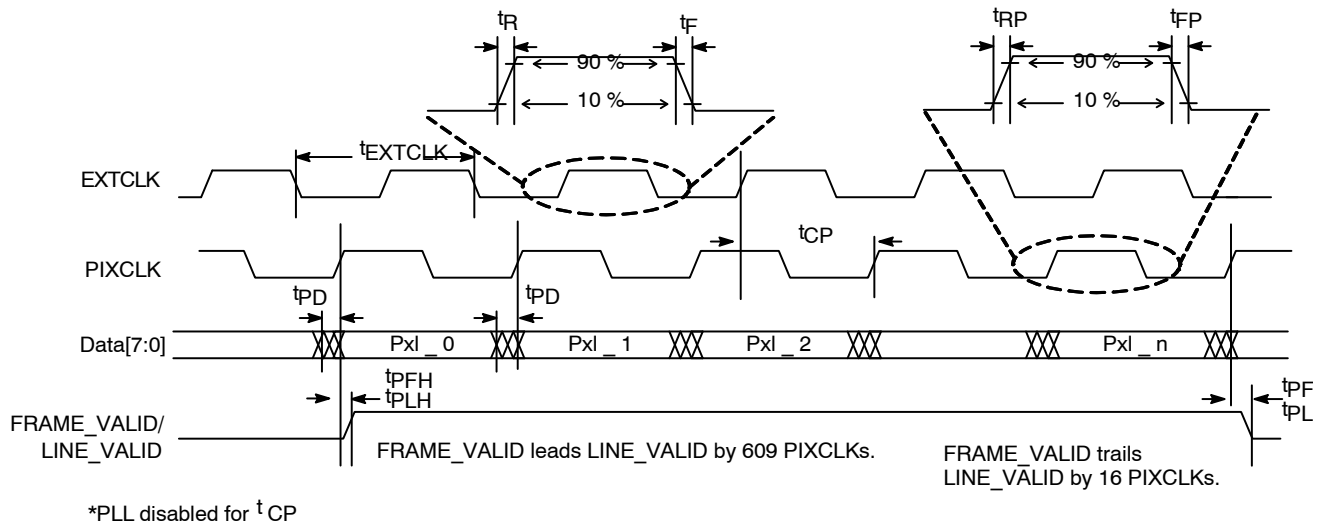

Figure 30. I/O Timing Diagram
See Figure 30 and Table 18 for I/O timing (AC) characteristics.